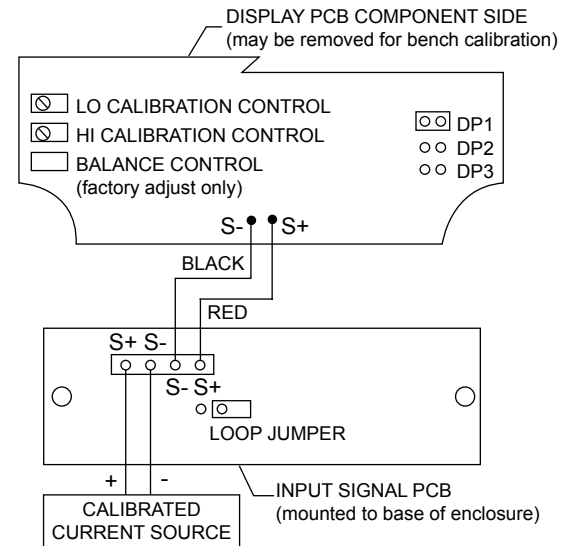

Figure 1: Calibrator Connected to Input Signal PCB
To access the input terminals it is necessary to remove the enclosure cover and the Display PCB. This is done by loosening the four screws on the enclosure cover and removing the cover. Completely loosen the left screw that holds the Display PCB to the enclosure and loosen the right screw about four turns so the Display PCB remains attached to the enclosure. Rotate the Display PCB 90° to gain access to the Input Signal PCB. Next, connect a calibrated current source per Figure 1.
LO and HI calibration controls are located to the left of the display (see Figure 1). Apply a signal equal to 4 mA and adjust the LO control to display the desired reading. Apply a signal between 16 and 20 mA and adjust the HI control to display the desired reading. Complete the calibration procedure by making any minor adjustments to the LO and HI controls.
- Connect red wire to S+ terminal and black wire to S- terminal, as shown in Figure 1.